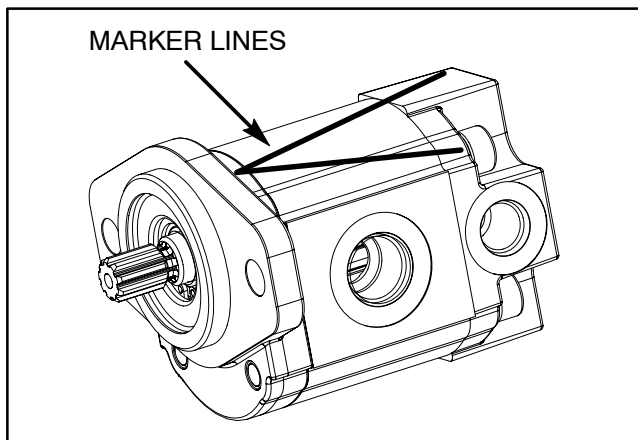

Figure 97
2. Use a marker to make a "V" across the front plate, body and back plate for assembly purposes (Fig. 97).